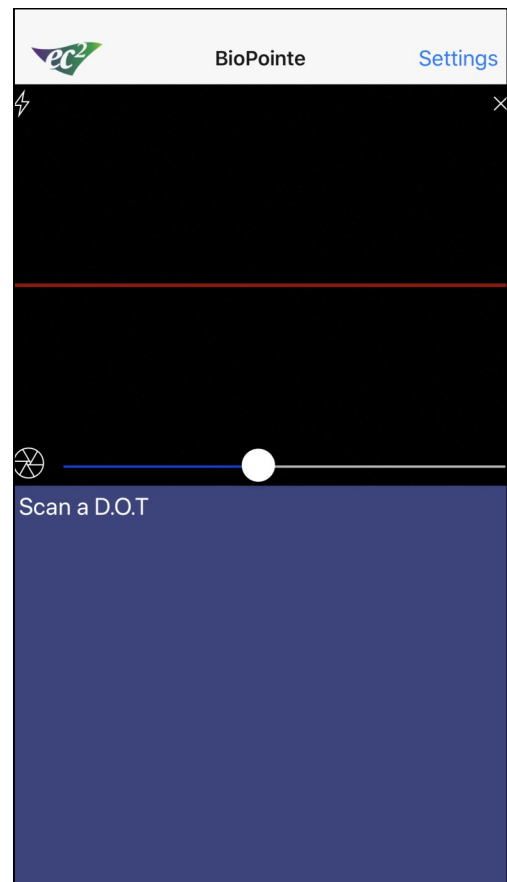

Fig 2
- c. Scan DOT barcode to start. See Fig 2